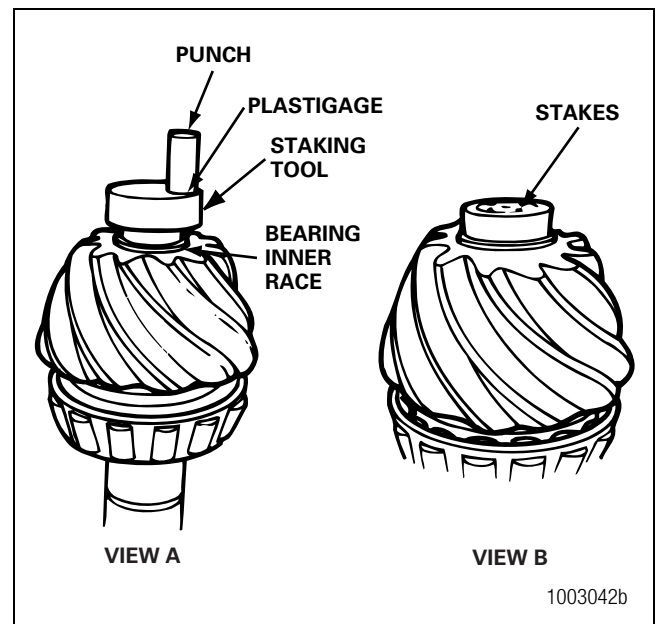

Figure 5.11
- Place the staking tool over the bearing race. Cut a one-inch (25 mm) piece from the green plastigage strip and place it between the punch and the staking tool. You do not need to use the plastigage for every stake. Use the plastigage until you are sure that you are hitting the punch with the correct amount of force. Figure 5.11.
- Strike the punch with a two-three pound (0.9-1.4 kg) brass hammer to upset the end of the pinion stem. Remove the strip and measure its thickness against the gauge on the strip's wrapper. The strip must not be less than 0.003-inch (0.0762 mm) thick. This thickness indicates that you are using enough force when you hit the punch. If the strip is too thin, then you must hit the punch harder so the stake will hold the race in place. Rotate the tool and repeat this procedure until there are six evenly spaced stake marks around the stem. Figure 5.11.